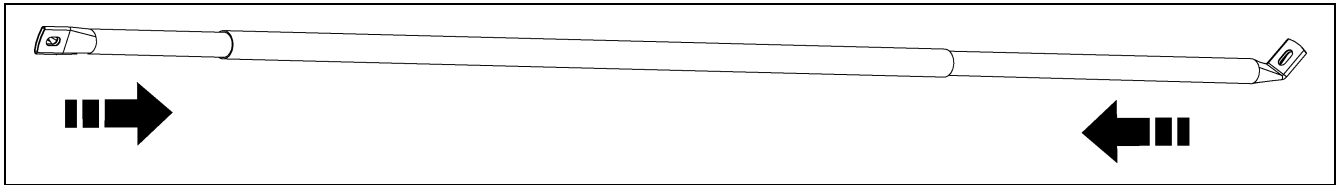
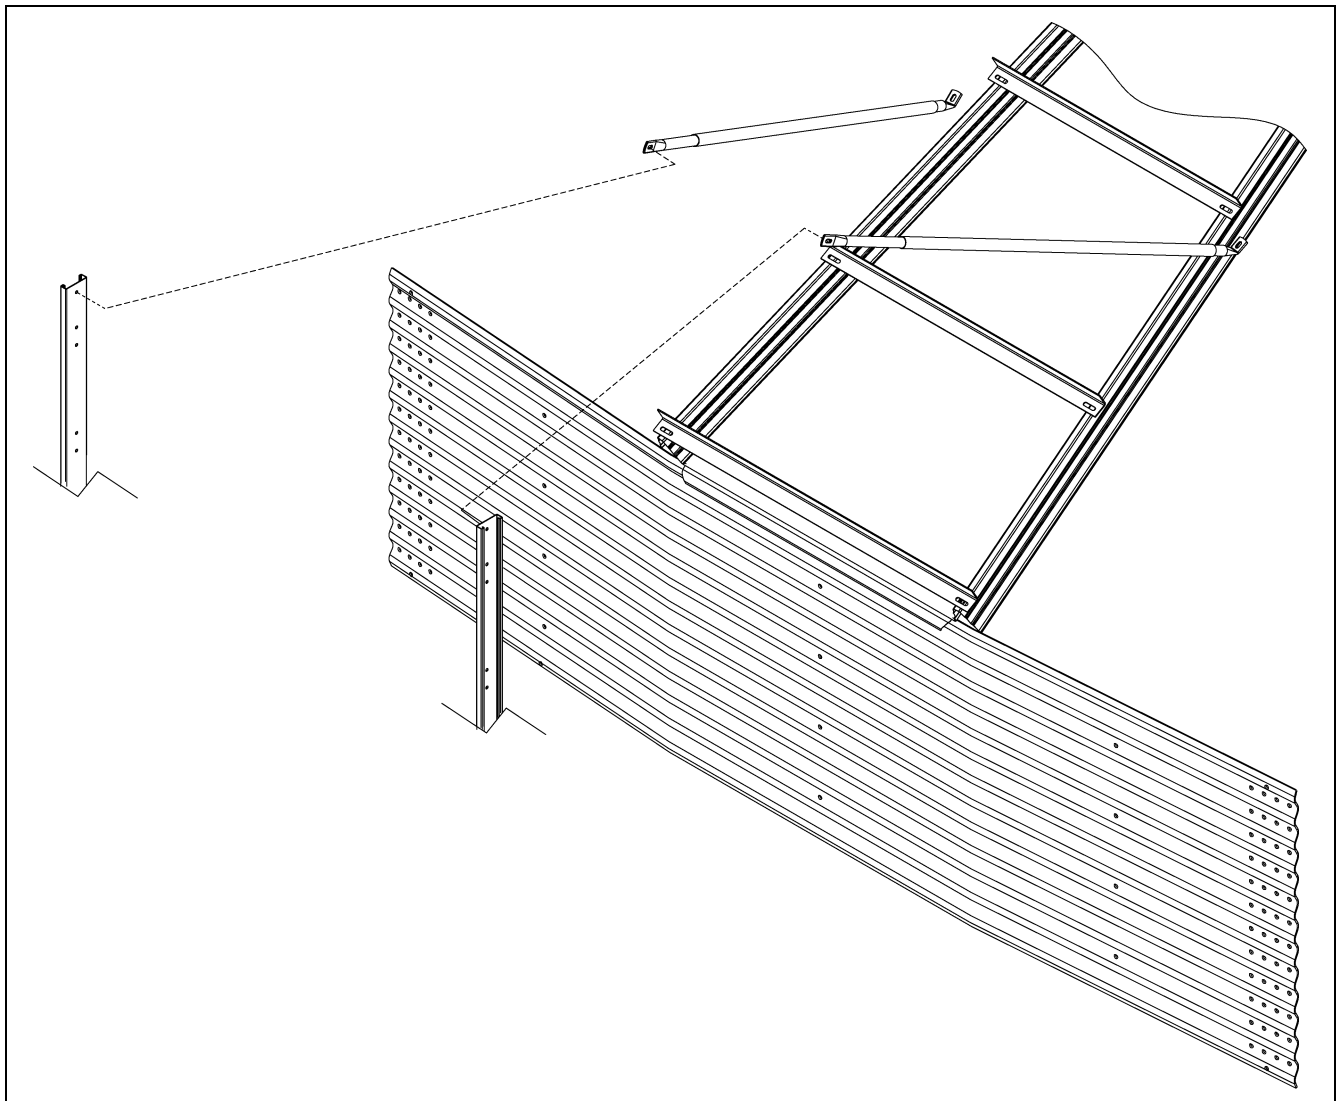

Figure 7F
Figure 7G
The eave adjustable braces must be attached at this time. An eave adjustable brace is comprised of one (1) larger diameter tube and two (2) smaller tubes. (See Figure 7F.) Slip the smaller tubes inside the larger tubes and attach one (1) smaller tube to the top of the ladder extension rail. Adjust the other smaller tube so the bottom of the flattened tube reaches the roof panel. Field drill four (4) 5/16" holes through both large and small tubes and bolt together using 1/4" x 1-1/2" bolts and nuts. This prevent the adjustable braces from slipping. (See Figure 7G.)